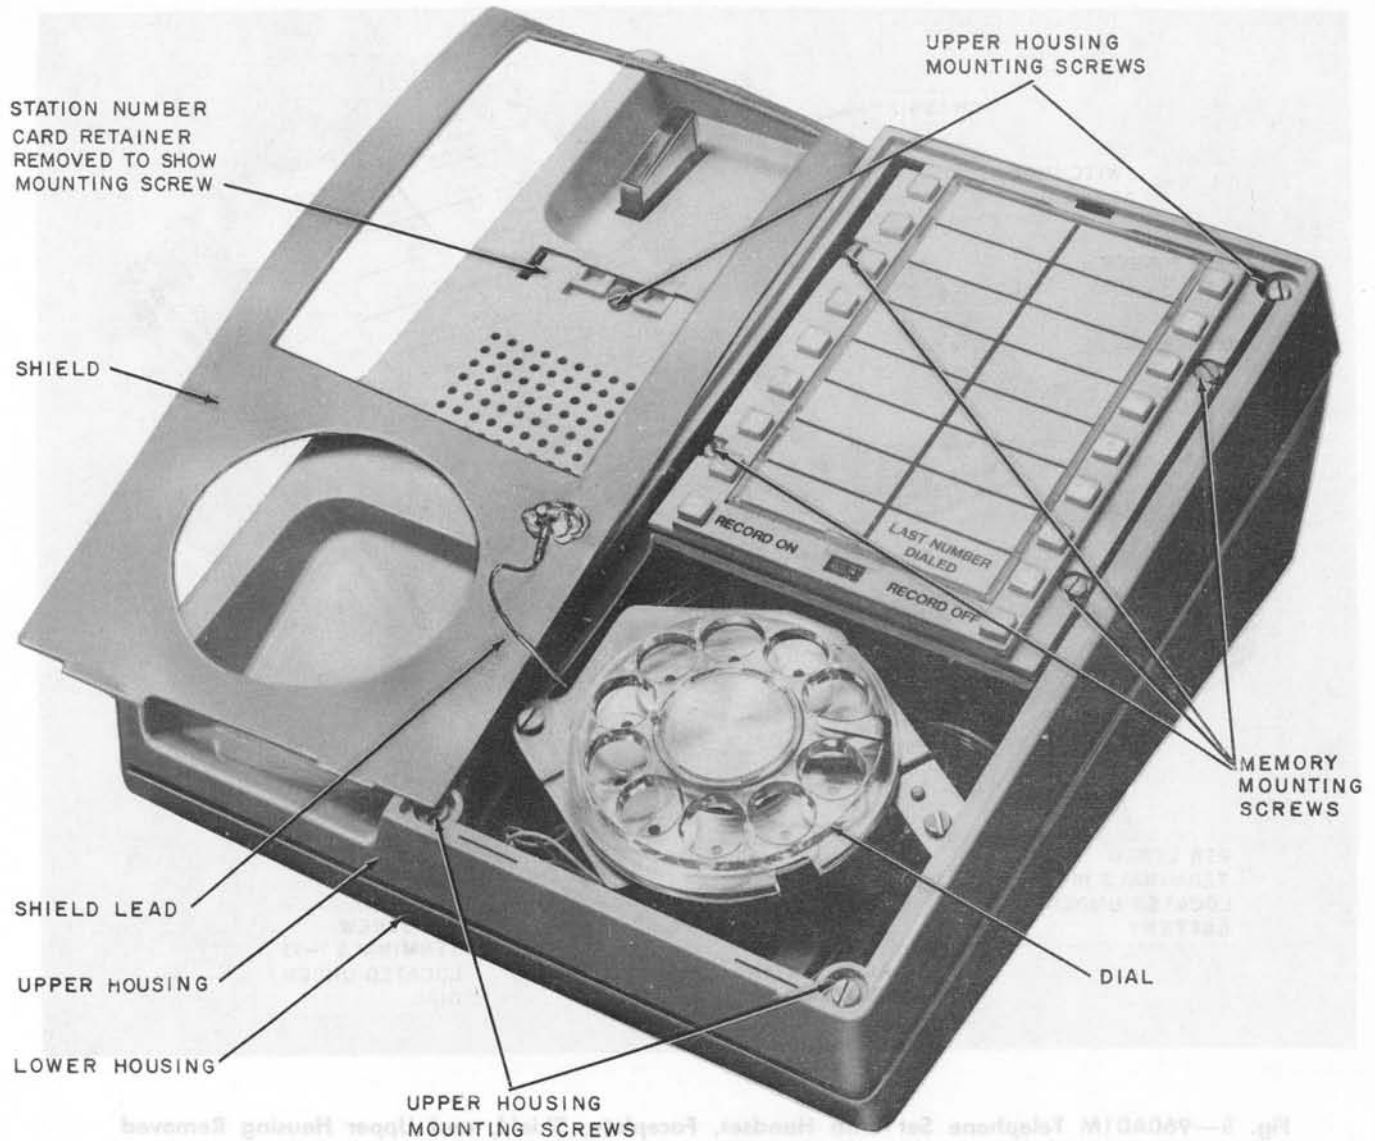

Fig. 4—960A01M Telephone Set With Handset and Faceplate Removed, and Shield Laid Aside
- (4) Insert the 3 leads from the switch assembly between the circuit board and the chassis under the memory.
- (5) Replace the lower housing and place the set upright.
- (6) Remove faceplate (paragraph 3.15).
- (7) Disengage the four captive memory mounting screws (Fig. 4).
- **Shield**—underneath faceplate and is positioned over the dial and Memory (Fig. 4).
- **Rotary Dial**—fastened by two screws and located on the top side at right-front corner of the chassis (Fig. 4).
- **Memory**—fastened by four screws and located just to the rear of the dial on the top right side of the chassis (Fig. 4).
- **Upper Housing**—fastened by four screws to the top side of the chassis (Fig. 4).
- (1) Unplug the modular handset cord at the telephone set end and remove handset.
- (2) Remove the faceplate (paragraph 3.15) and place the shield aside (Fig. 4).
- (3) Remove the station number card retainer and station number card.
- (4) Disengage the four captive upper housing screws (Fig. 4).
- (5) Remove the upper housing by slipping the shield through the faceplate cutout.
- (6) To replace the upper housing, reverse the procedure.